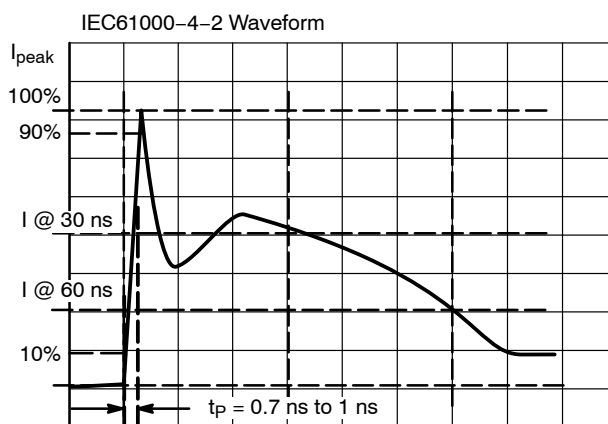

Figure 3. IEC61000-4-2 Spec
5. Typical waveform. For test procedure see Figures 3 and 4 and Application Note AND8307/D.